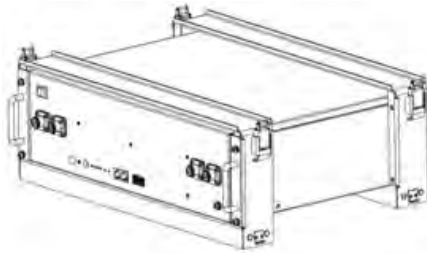

Figure 3-5
1. Place the B3 and brackets as shown in the figure 3-5, and insert the B3 into the brackets. Use 4 screws to fix the module on the front bracket.